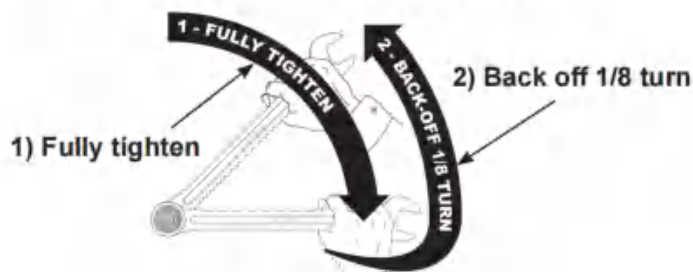

Figure 10
16. For both upper and lower arms, tighten all locknuts at the mast and tee pivot areas up to end of threads. Then back off (loosen) the locknuts 1/8 turn. **See Figure 10.**